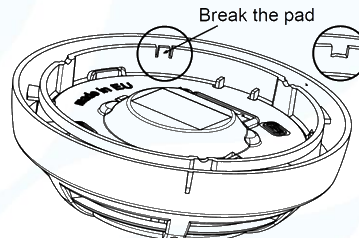

Fig.4
- Break the plastic at the indicated location at the bottom of the sensor (Fig. 4).